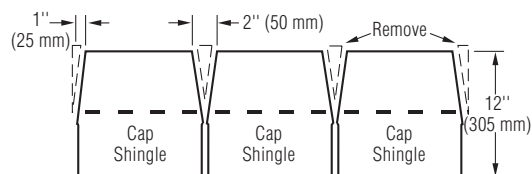

Figure 10-19: Cut tabs, then trim back to make cap shingles (English dimensions shown).
2. Make the caps by cutting full-length shingles at the tab cutouts. Trim the back end of the caps as shown in Figure 10-19.